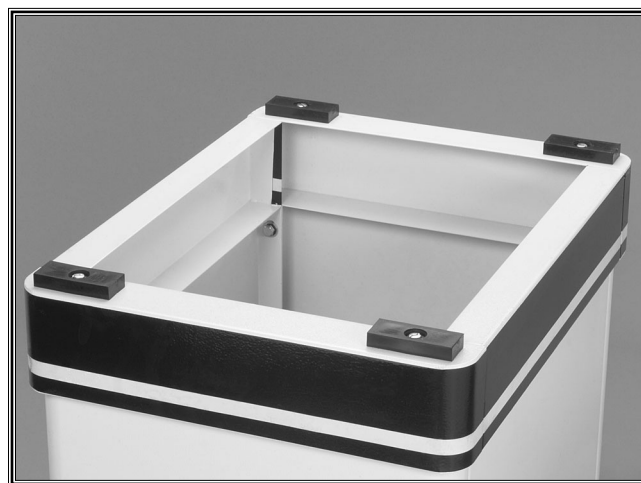

Figure 5. Rubber feet installed.
3. Secure the rubber feet to the bottom corners of the cabinet stand with the floor pad hardware bag as shown in **Figure 5**.